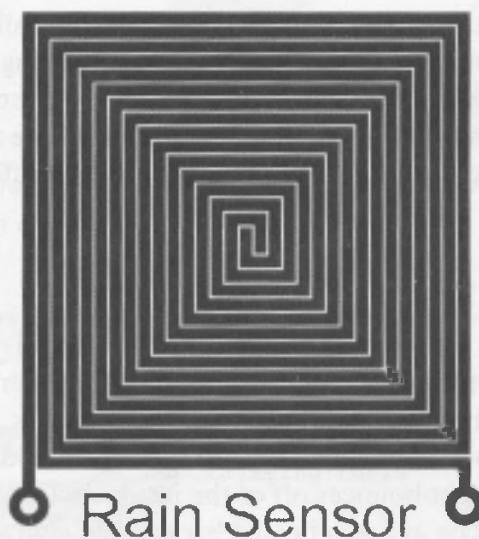

Figure 3-4 *Template for small PCB*
In order to be able to construct the sensor, you will need to have the capability to etch small PCBs. Use the template supplied in Figure 3-4 as a guide. A variety of methods are available on the market for producing a PCB etch resist. The simplest is using an etch resist pen and a ruler. This should provide satisfactory results. Other methods include a photographic transfer by printing the design onto drafting film, placing it onto a sensitized board, and exposing it to *ultraviolet* (UV) light. A simple system that is very effective is the press-n-peel PCB transfer system. Photocopy or laser print the design onto a sheet of this material. Iron it onto a plain copper board using a household iron, peel the sheet away, and etch the board.